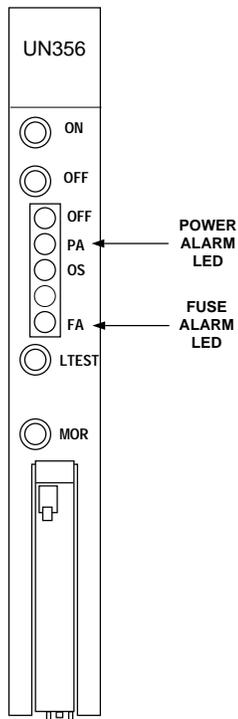

Figure 1. The UN356 Circuit Pack
1. Does the HDU have a **blown fuse** (FA Light Emitting Diode [LED] lighted on one of the UN356 circuit packs) or a **power alarm** (PA and OFF LEDs lighted on one of the UN356 circuit packs)? (See Figure 1.)